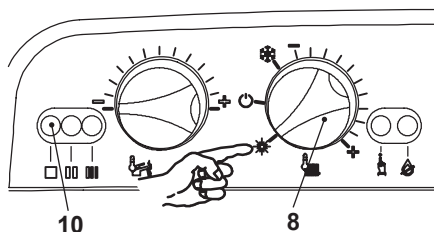

Fig. 2.5
- If d.h.w. supply only is required, position the function selector 8 as in Fig. 2.5. The appliance operation light 10 will flash every 2 seconds (operating boiler).